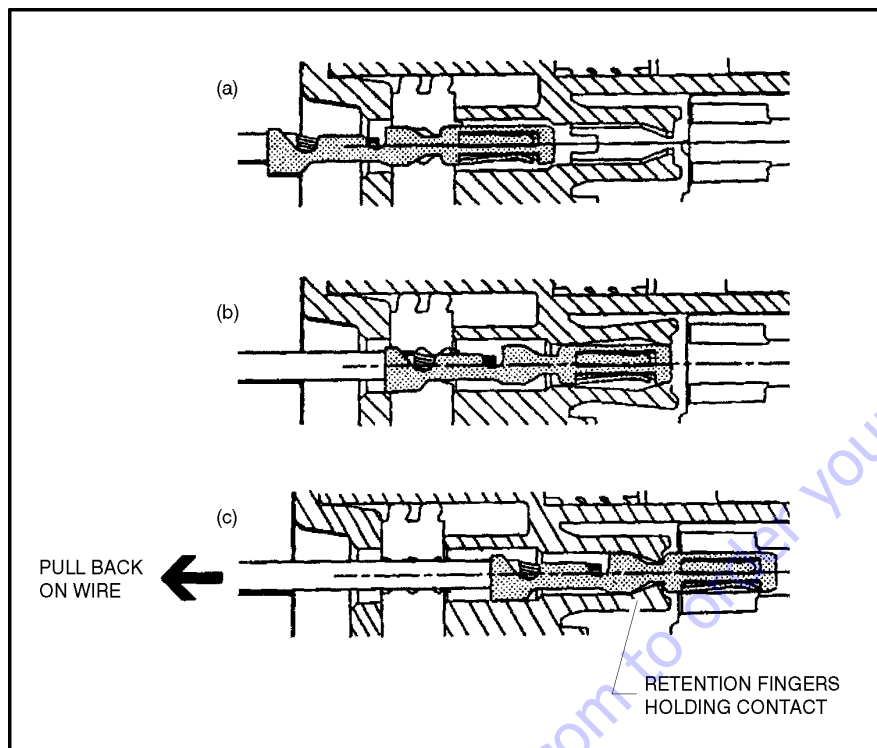

Figure 7-9. Connector Assembly Figure 2
1. To insert a contact, push it straight into the appropriate circuit cavity as far as it will go (See Figure 7-9.).
2. Pull back on the contact wire with a force of 1 or 2 lbs. (4.5 or 9 N) to be sure the retention fingers are holding the contact (See Figure 7-9.).